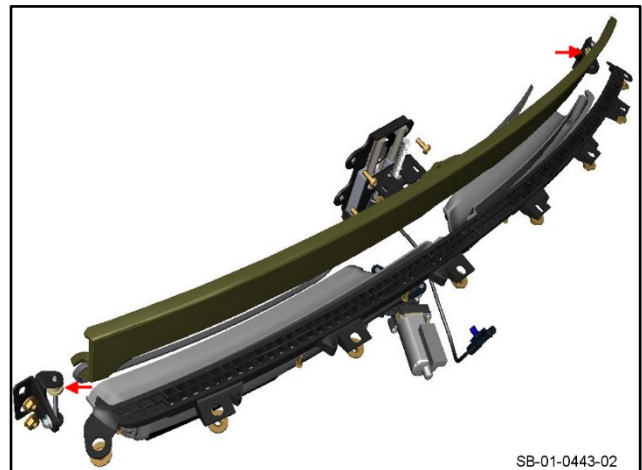

Figure 2
11. If the rear spoiler still does not move easily, replace the spoiler guide assemblies – refer to Figure 2 (refer to Workshop Manual procedure 01.08.DD).